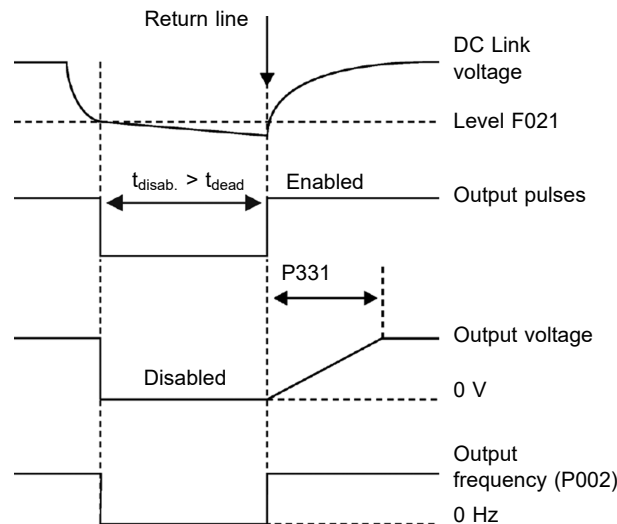

Figure 8.7: Actuation of the Ride-Through function
- Ride-Through Function (RT):** The Ride-Through function will disable the inverter output pulses (IGBT) as soon as the supply voltage reaches a value below the undervoltage value. A fault due to undervoltage (F021) does not occur and the DC link voltage will slowly drop until the supply voltage returns. In case it takes the supply voltage too long to return (over 2 seconds), the inverter may indicate F021 (undervoltage on the DC link). If the supply voltage returns before, the inverter will enable the pulses again, imposing the frequency reference instantly (like in the Flying Start function) and making a voltage ramp with time defined by parameter P331. Refer to Figure 8.7 on page 8-11.